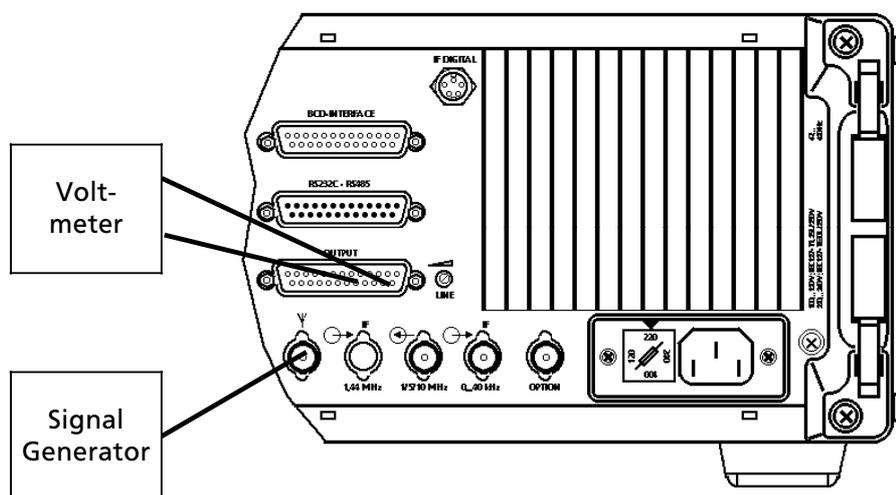

Fig. A1.2 Test Setup
5. Disconnect RF cable from antenna socket (see Fig. A1.2).